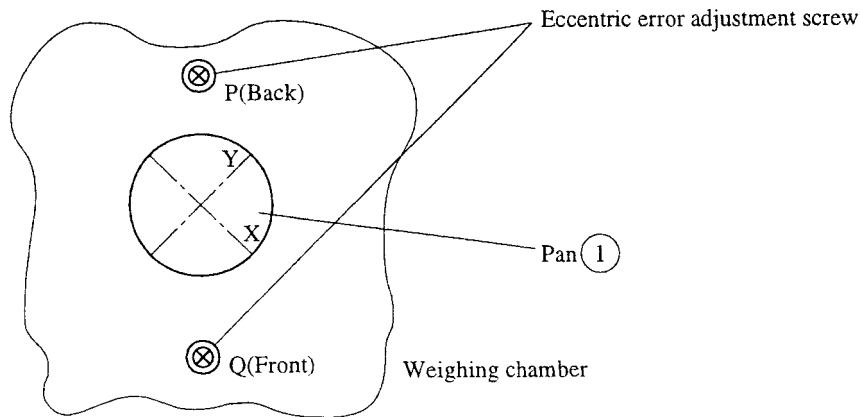

Fig. 18
- (3) Load the weight at the center on weighing pan (1*) and press the TARE key to display 0.0000 g.
- (4) Regard the value displayed when the weight is moved to X position on weighing pan (1*) as X g. (See Fig. 18 on page 20)
- (5) Regard the value displayed when the weight is moved to Y position on weighing pan (1*) as Y g. (See Fig. 18 on page 20)
- (6) Make adjustment until the absolute values of X g and Y g becomes 10 mg or less respectively.
weighing pan (1*) as X g. (See Fig. 18)
- (5) Regard the value displayed when the weight is moved to Y position on weighing pan (1*) as Y g. (See Fig. 18)